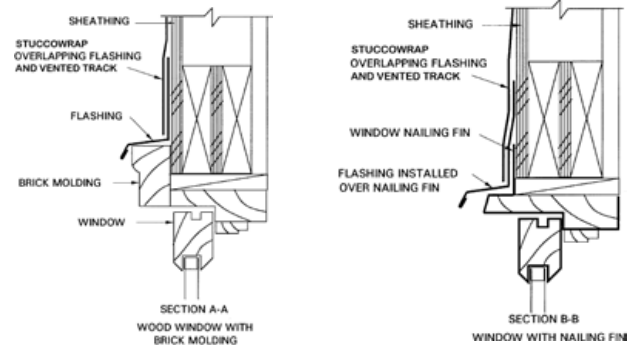

Fig. 11.11
**11. Installation of Track over Heads (ONLY ALLOWED ON COMBUSTIBLE CONSTRUCTION - CONTACT TECHNICAL SERVICES TO DETERMINE IF THIS IS APPROPRIATE FOR YOUR TYPE OF CONSTRUCTION):** Vented track is cut to extend 1/2 in. (13mm) past either end of the head of door or window and installed with its vertical leg **BEHIND** the StuccoWrap and 1/4 in. (6mm) to 3/8 in. (10mm) above the metal head flashing (or head of self-flashing windows) to allow drainage space. Add Flashing Membrane “bandages” at both corners. (Fig. 11.11)